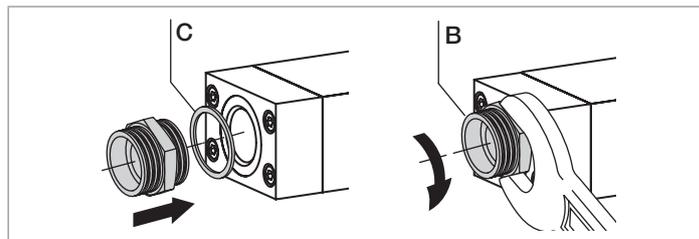

Fig. 13: Screw on the compression-fitting body
- Place the seal [C] on the product fluid-connection. See Fig. 13.
- Screw the compression-fitting body [B] in the fluid connection. Tighten to a torque of 25...28 N·m, that is 18.44...20.65 lbf·ft. See Fig. 13.